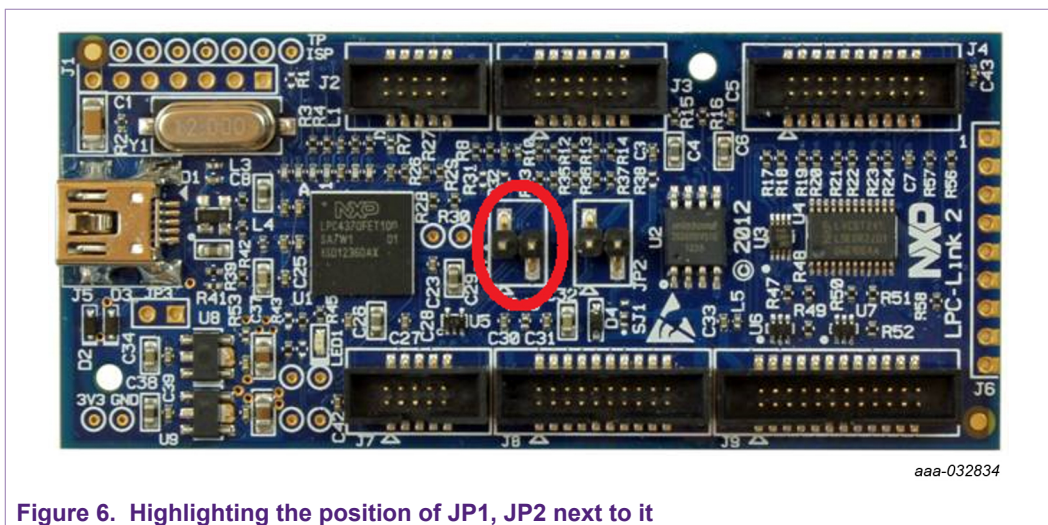

Figure 6. Highlighting the position of JP1, JP2 next to it
1. Remove JP1 from the LPC-Link2 board (see Figure 6).